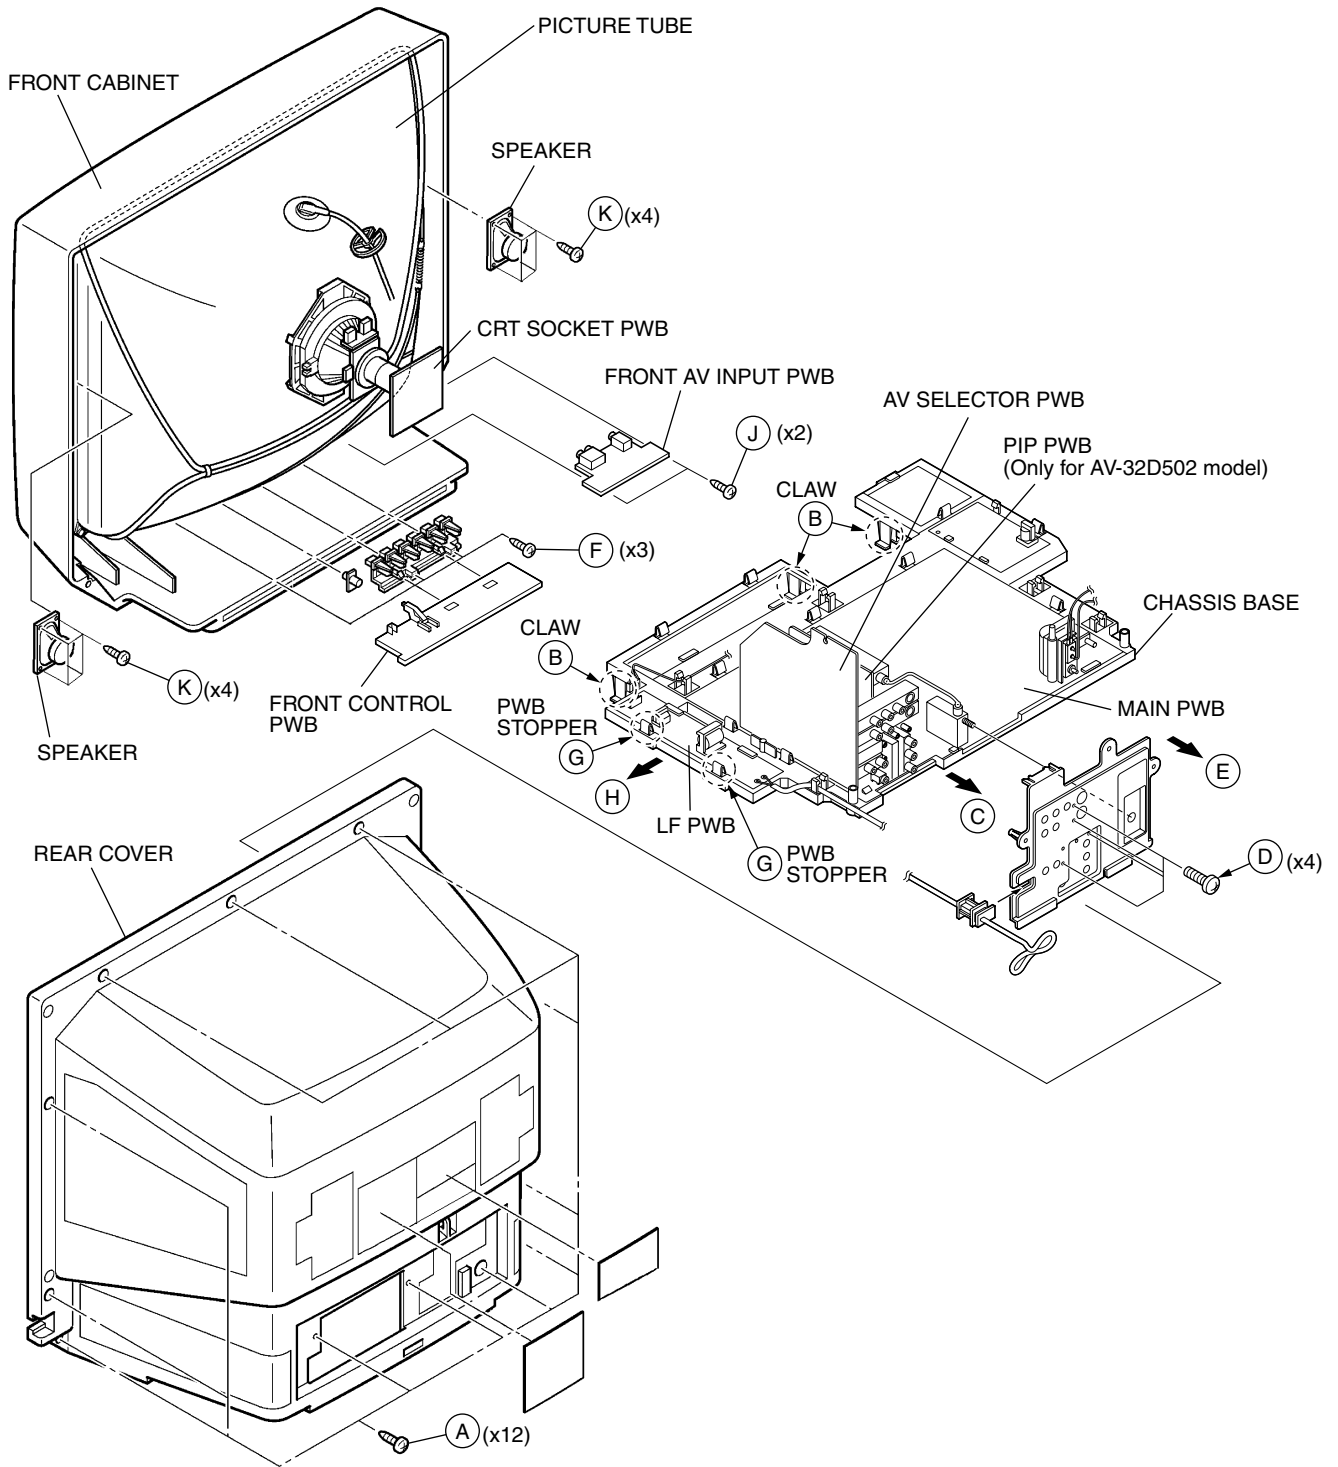

Fig.1
2. Remove the 12 screws marked (A) as shown in Fig.1.
1. Slightly raise the both sides of the chassis by hand and remove the 3 claws marked (B) under the chassis from the front cabinet as shown in Fig.1.
2. Withdraw the chassis backward along the rail in the arrow direction marked (C) as shown in Fig.1.
1. Remove the 4 screws marked (D) as shown in Fig.1.
2. When you pull out the TERMINAL BOARD in the direction of arrow marked (E) as shown in Fig.1, it can be removed.
1. Remove the 3 screws marked (F) and the 2 screws marked (J) as shown in Fig.1.
1. Lift the left side of the LF PWB while pressing the 2 PWB stoppers marked (G) in the arrow direction marked (H) as shown in Fig.1.
1. Remove the 4 screws marked (K) as shown in Fig.1.
<p>(7) SERVICE MENU setting Verify what to set in the SERVICE MENU, and set whatever is necessary.(Fig.1) Refer to the SERVICE ADJUSTMENT for setting.</p>